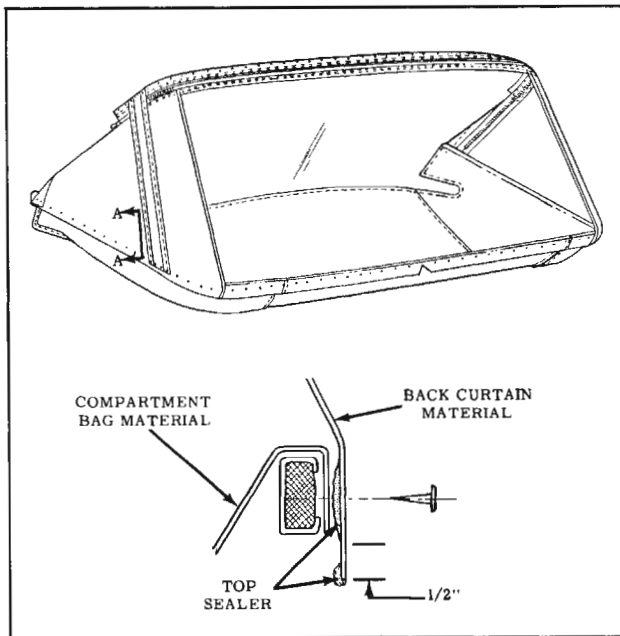

Fig. 16-138 Back Curtain Sealing
3. Place back curtain window assembly on clean covered work bench with exterior (vinyl) surface of back window valance facing down. (Large pliable back window must be handled carefully to avoid possible damage due to scratches, abrasions, etc.). Apply bead of convertible top sealer (nitrile) along lower edge of back curtain material in area which will be tacked to rear and rear quarter trim sticks. (View "A-A", Fig. 16-138)
4. Apply bead of convertible top sealer (nitrile) along lower selvage edge of back curtain material. (Fig. 16-138).
- NOTE: Notch in back curtain vinyl at lower edge indicates centerline of back curtain assembly. (Fig. 16-138). In addition, back curtain lower edge should extend 1/2" below lower edge of trim sticks. (Fig. 16-138)
7. Tack curtain to rear and rear quarter trim sticks. Turn forward edge of material rearward to form a water barrier. (Fig. 16-138)
25. After desired fit of top material has been obtained, remove trim sticks with attached top material from top compartment well. Back curtain should extend 1/2" below trim sticks. (Fig. 16-138)